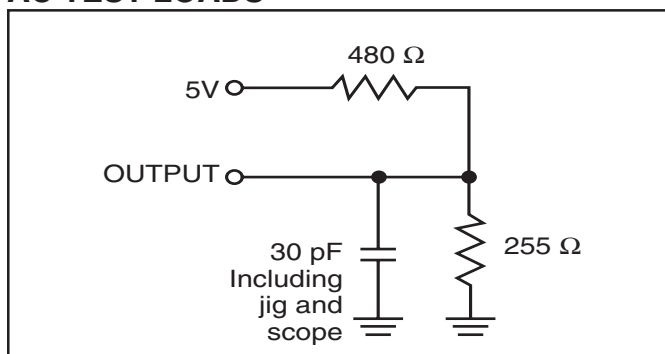

Figure 1
1. Test conditions assume signal transition times of 5 ns or less, timing reference levels of 1.5V, input pulse levels of 0 to 3.0V and output loading specified in Figure 1.
| Output Load | See Figures 1 and 2 |
1. Test conditions assume signal transition times of 3 ns or less, timing reference levels of 1.5V, input pulse levels of 0 to 3.0V and output loading specified in Figure 1.